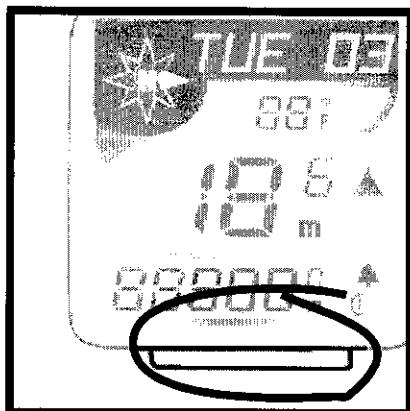

Fig. 11
MODE button (Fig. 11). Used to scroll through features on lower screen lines. Also used in Reset of computer, referred to as <MODE>.
3. Press <Mode> (Fig. 11) to scroll to a different setting. Press <Set> to select your preferred wheel size.